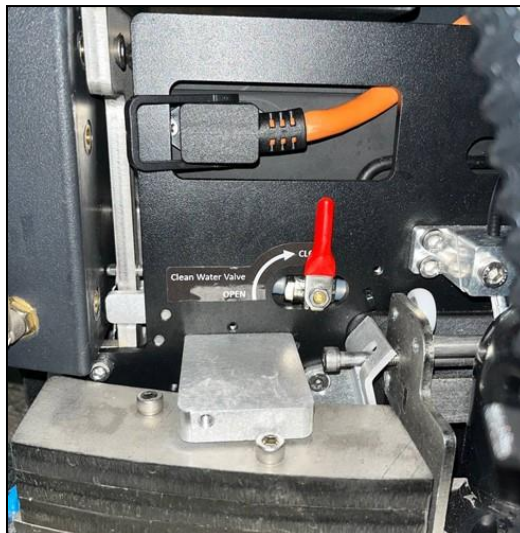

Fig. 1
1. Close the water valve and unplug the clean water tubes on the left and right shown (Fig 1).